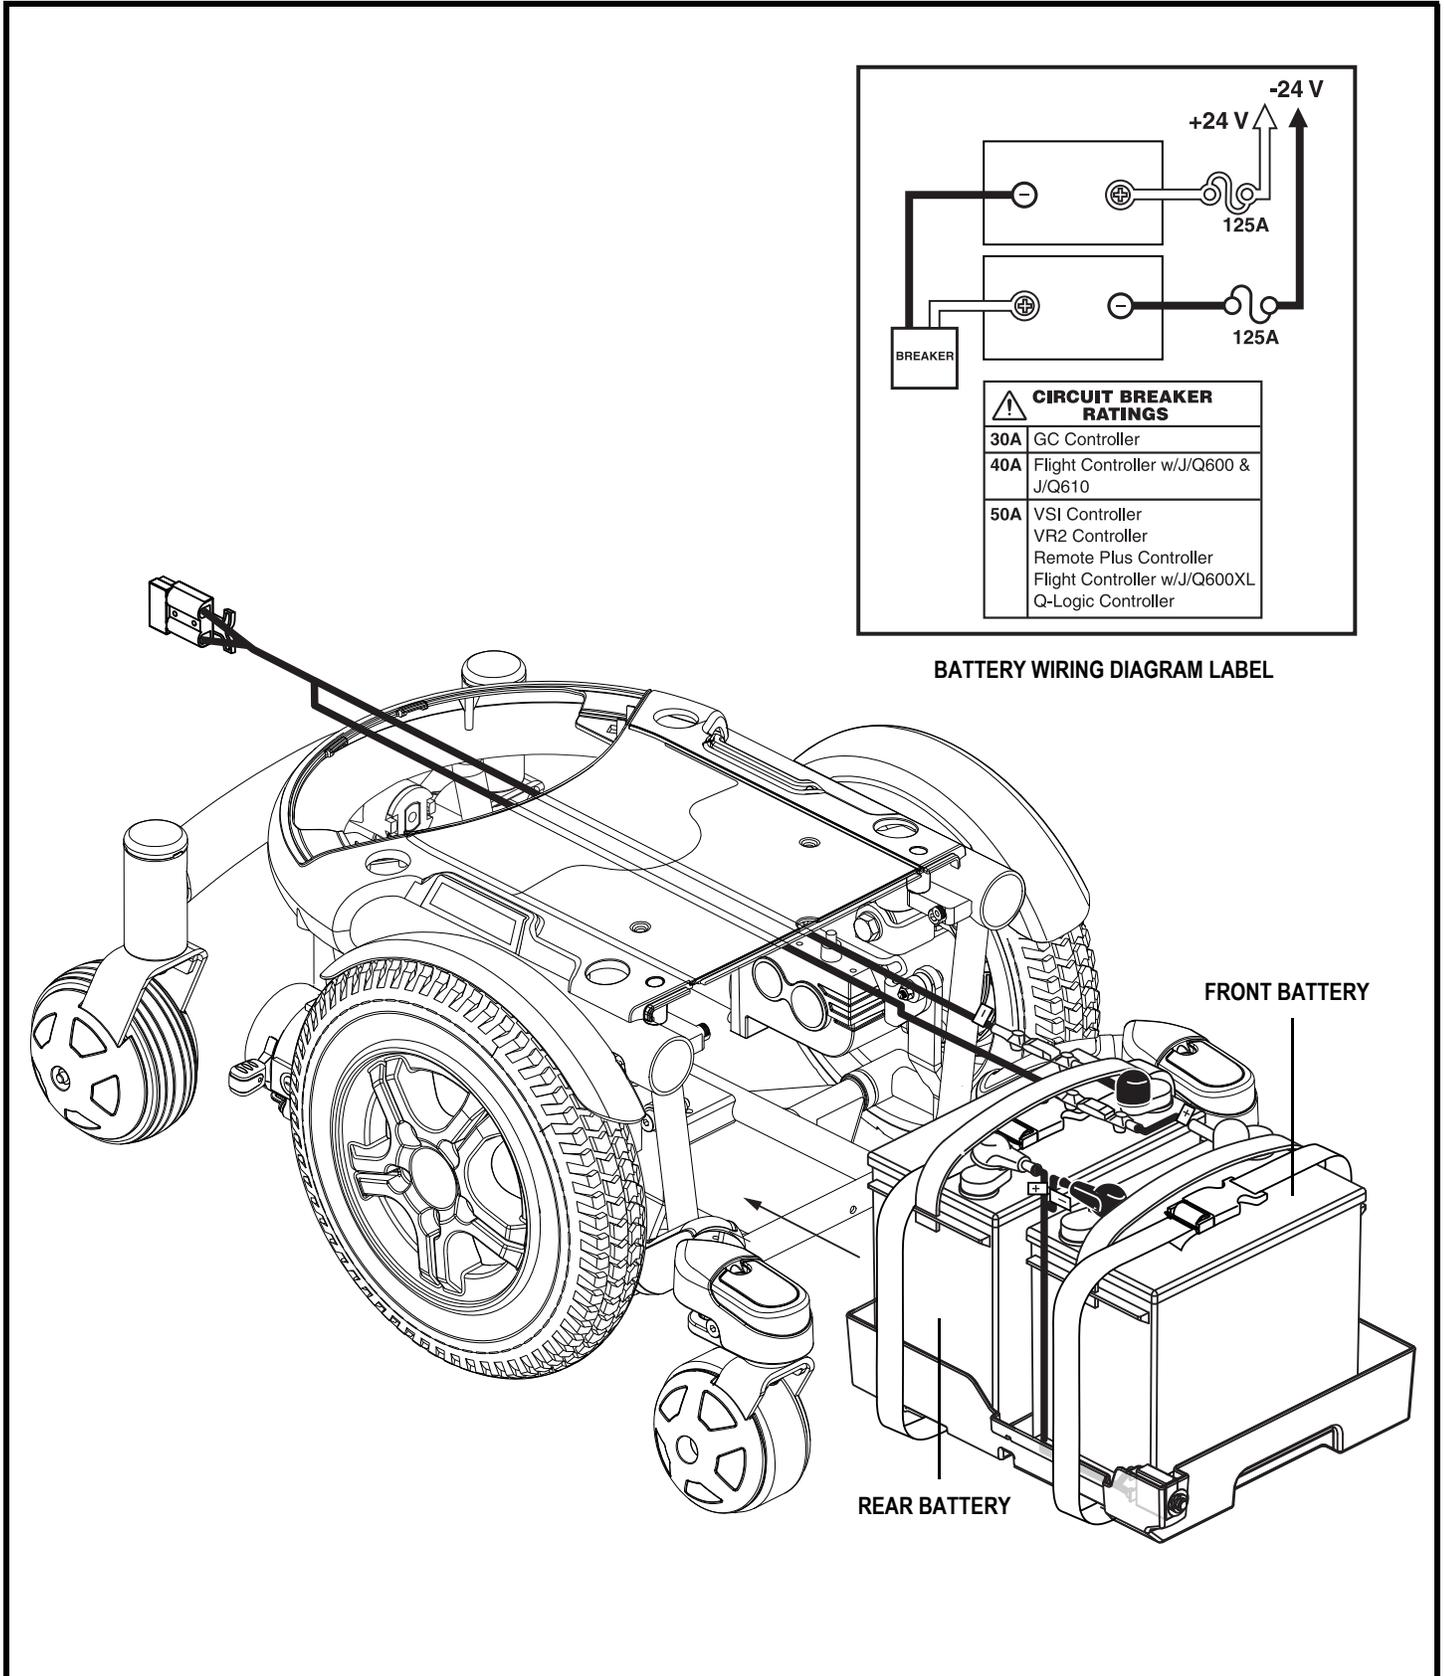

Figure 27. Battery Installation
13. Connect the battery harness to the front battery according to the battery wiring diagram. **See figure 27.**